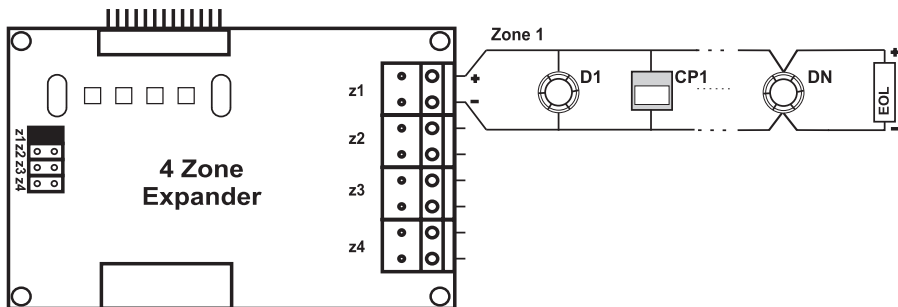

Figure 26. Example for Instant Action Mode Programming.
**Example: If there are call points connected in ZONE 1, for the system to function properly there must be a jumper set at its zone expander at z1 position, see also Figure 26.**